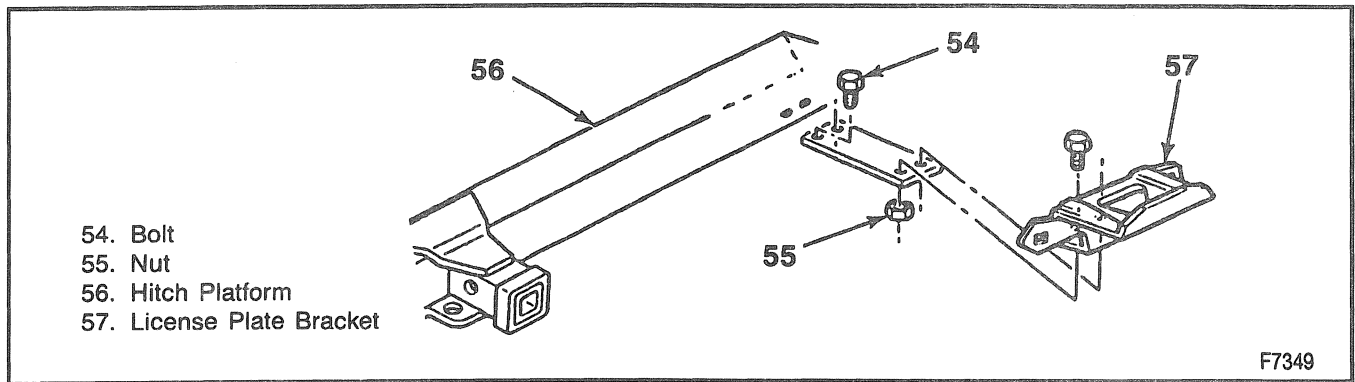

Figure 12—Hitch Platform License Plate Bracket
↔ Remove or Disconnect (Figures 12 and 13)
1. Bracket plate to hitch platform bolts and nuts (Figure 12).
→← Install or Connect (Figures 12 and 13)